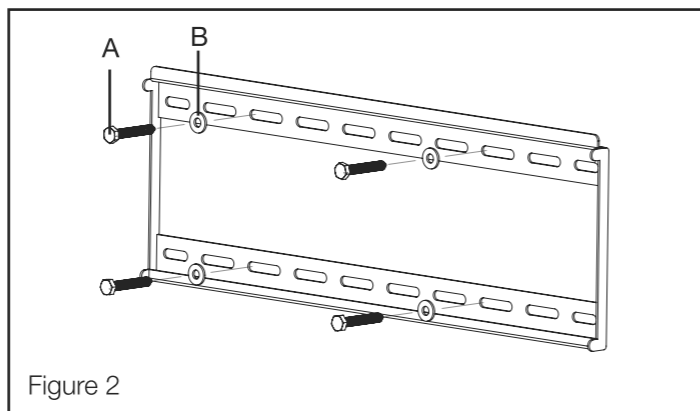

Figure 2
4. Attach the Wall Plate by inserting the lag bolts (A) through the lag bolt washers (B) and then through the Wall Plate (see Figure 2). Do not over tighten.